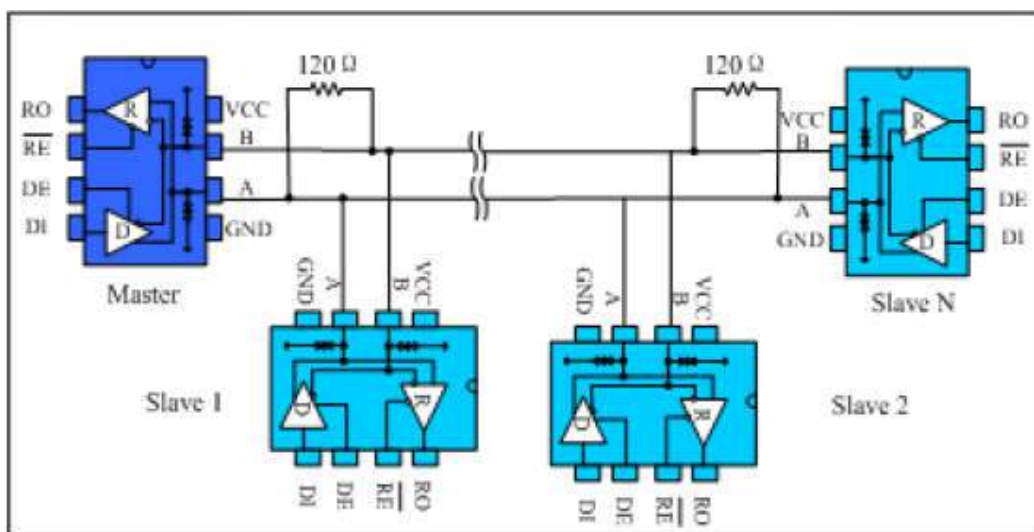

Fig. 9 Bus-type RS485 half-duplex communication network
**4.1 Bus networking:** The ADM3485E RS485 transceiver is designed for bidirectional data communication on multi-point bus transmission lines. Figure 9 shows a typical network application circuit. These devices can also be used as linear repeaters with cables longer than 4000 feet. In order to reduce reflections, terminal matching should be done at both ends of the transmission line with their characteristic impedance, and the length of the branch wires other than the main line should be as short as possible.